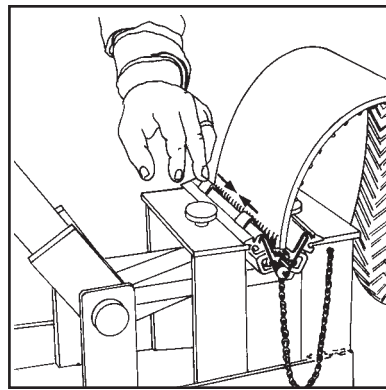

Figure 7
**10. RAISE POWER LEVER.** Move each pressure plate inward to next section of hooks not yet clinched with pressure plates. Repeat until pressure plates meet in center. Reverse procedure, working outward until all hooks have had contact with the pressure plates twice (Fig. 7).